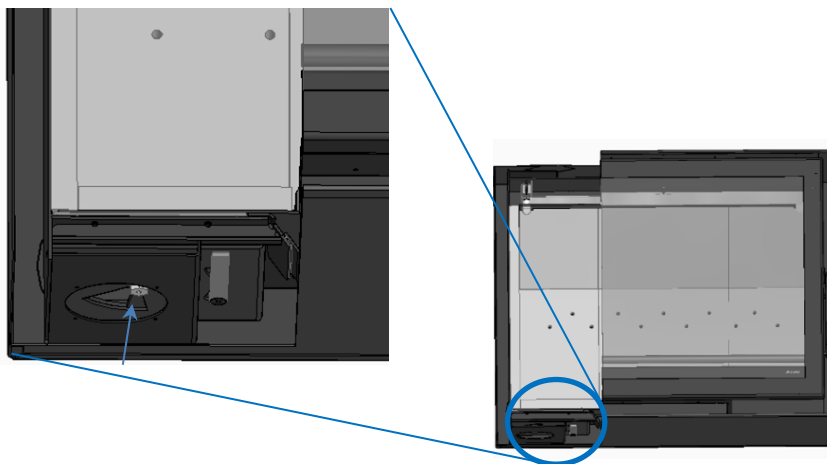

Figure 12 - 3 Air intake for combustion
* The cold air intake can be carried out from below the unit, so the unit will draw cold air from the room where it is installed, see Figure 12.